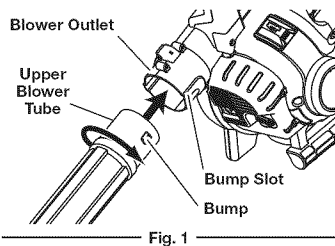

Fig. 1
1. Align the bump on the end of the upper blower tube with the bump slot on the bottom end of the blower outlet (Fig. 1).
2. Insert the upper blower tube into the blower outlet (Fig. 1).
3. Twist the upper blower tube clockwise until it locks into place (Fig. 1).